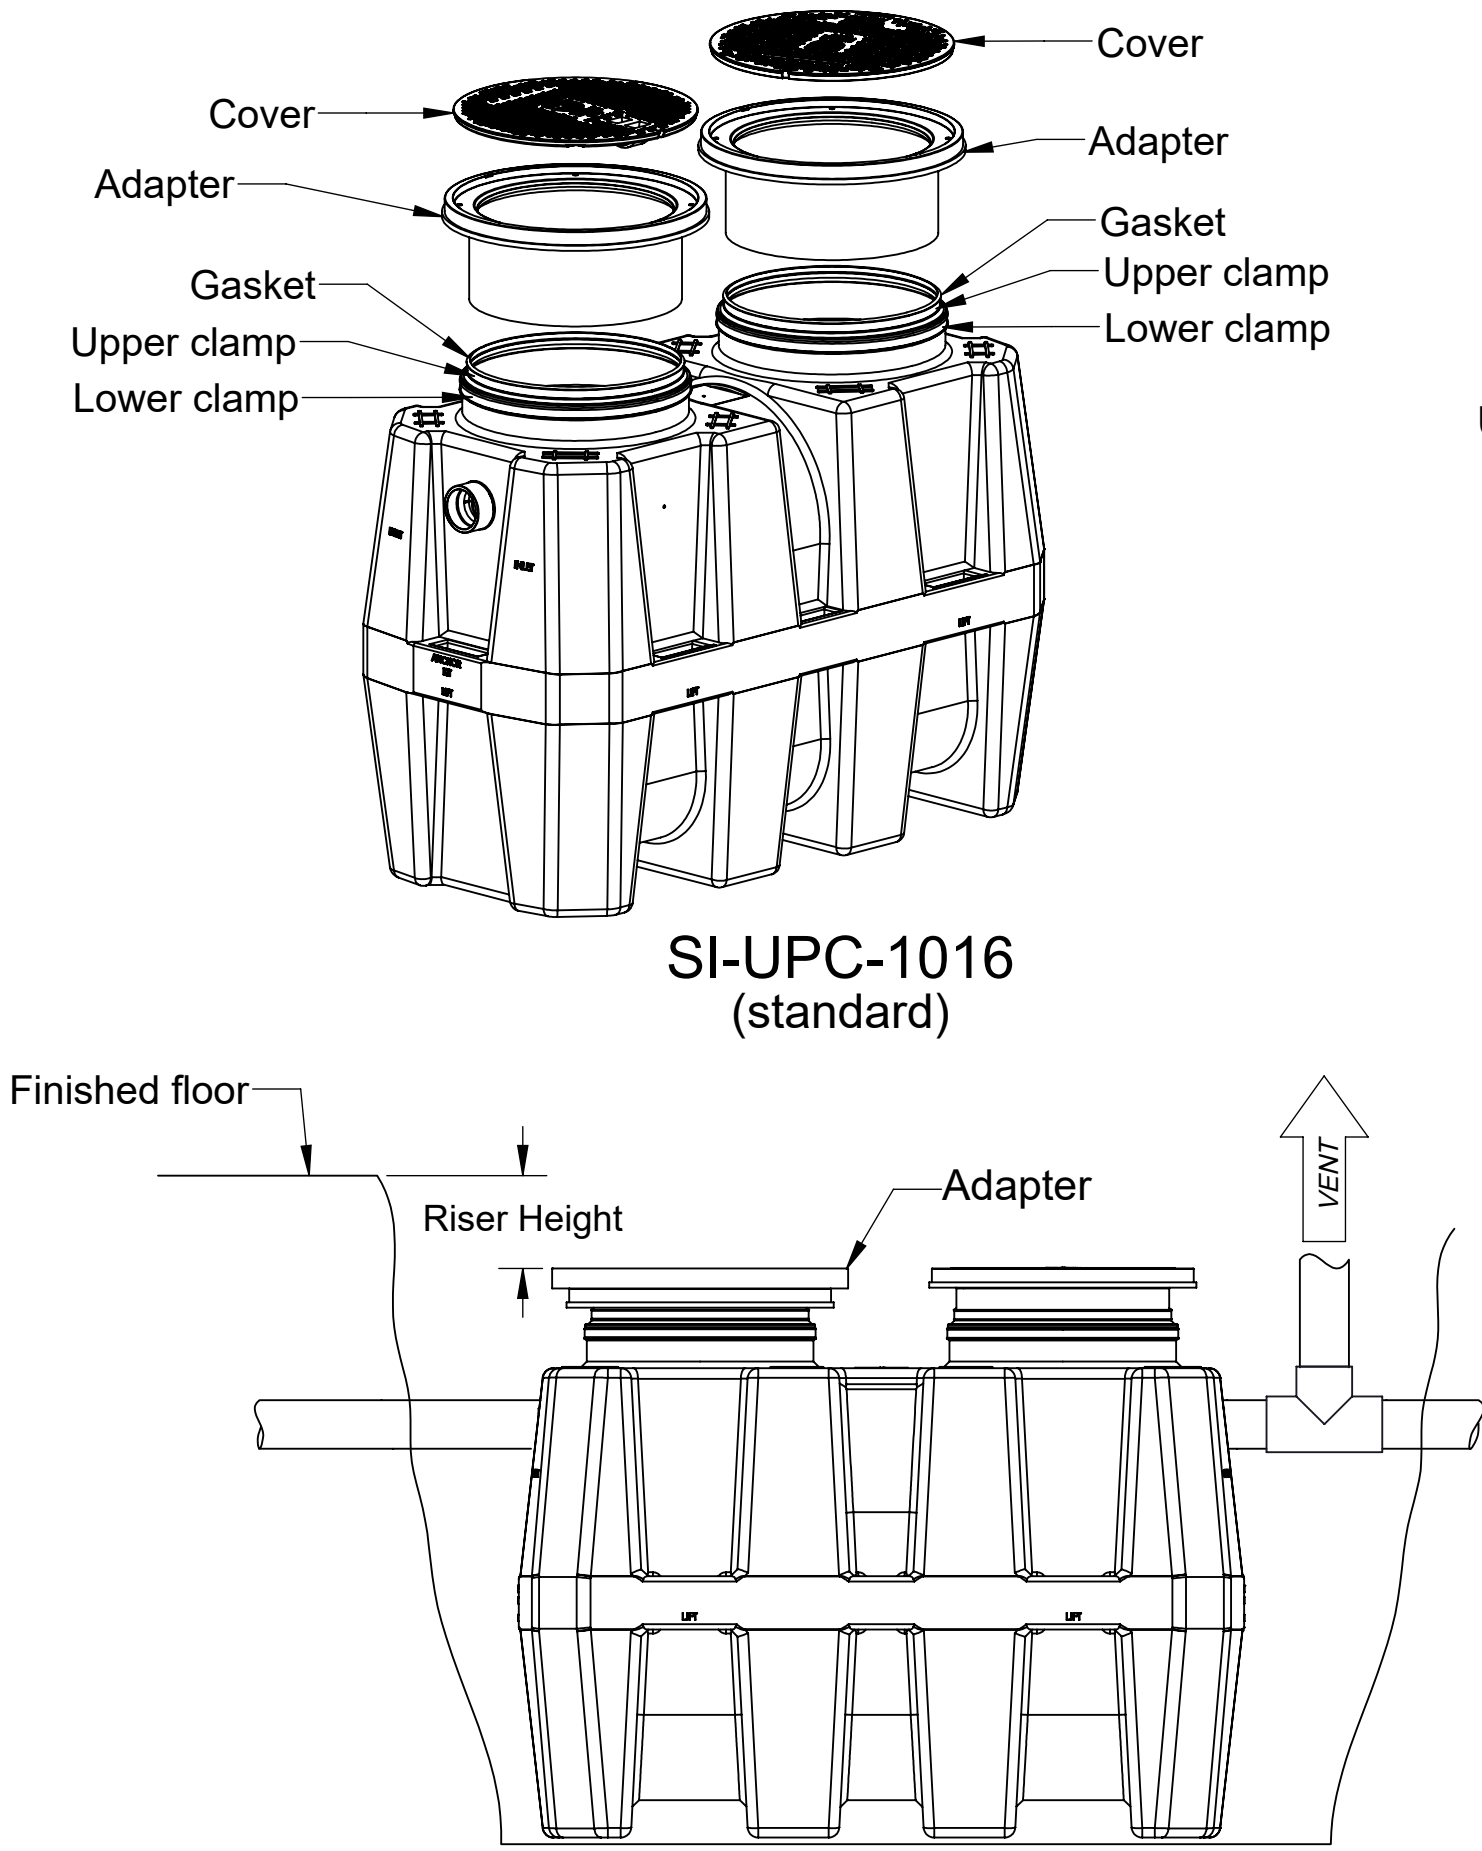

Figure 1
- If the unit is to be buried: Once the unit is set up so that the pipe connections line up with the jobsite piping, measure the total riser height needed from the top of the cover to finished grade. Make sure you include any future tile work, etc. that may be installed in your finished grade measurements. See figure 1.